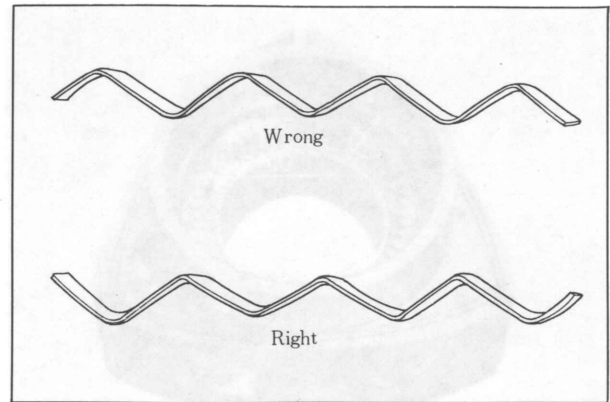
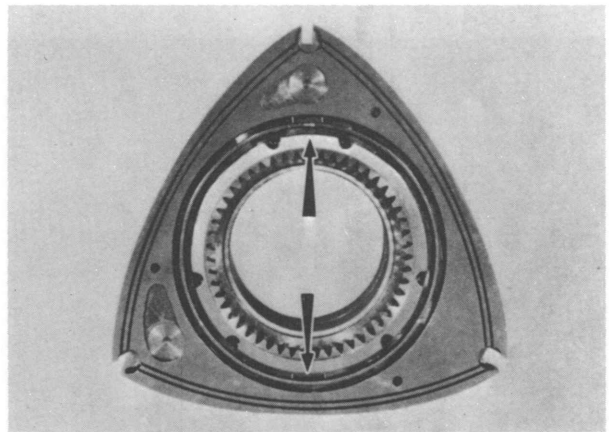

Fig. 1-83 Direction of seal spring
Fig. 1-84 Position of spring gap
2. Fit the outer and inner oil seal springs in their respective grooves of the rotor so that **the end of the spring is upward** as shown in Fig. 1-83 and that **the spring gap is located opposite each other** as shown in Fig. 1-84.